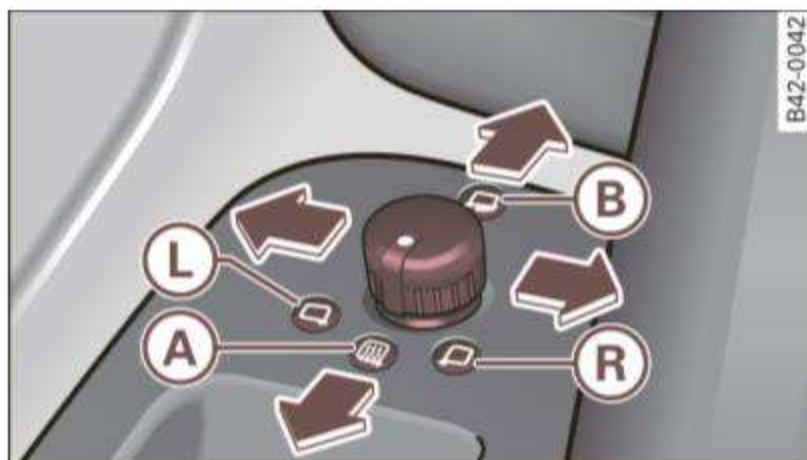

Fig. 52 Forward section of driver's armrest: power mirror controls
- Turn the adjusting knob to position **(L)** (driver's side) or in position **(R)** (passenger side) ⇒ fig. 52.